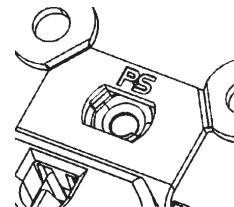
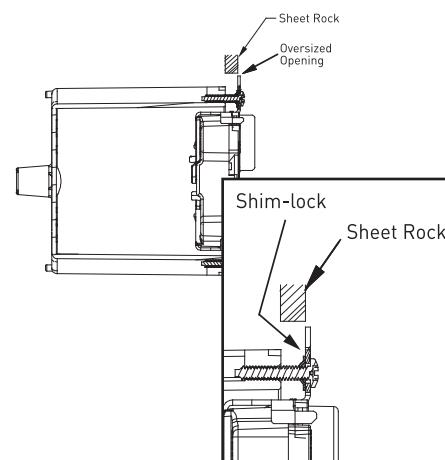

Figure 2. Schematic of the shim held captive in the mounting slot
Figure 3. Device floatation arrested using the Shim-lock
5. If orientation is attained, ensure that the tab is constrained within the mounting slot while pushing the strap firmly against the Shim-lock, to lock its rotation [refer to Figure 2]. Continue to fasten the screw gradually to capture the strap at the desired elevation [refer to Figure 3].